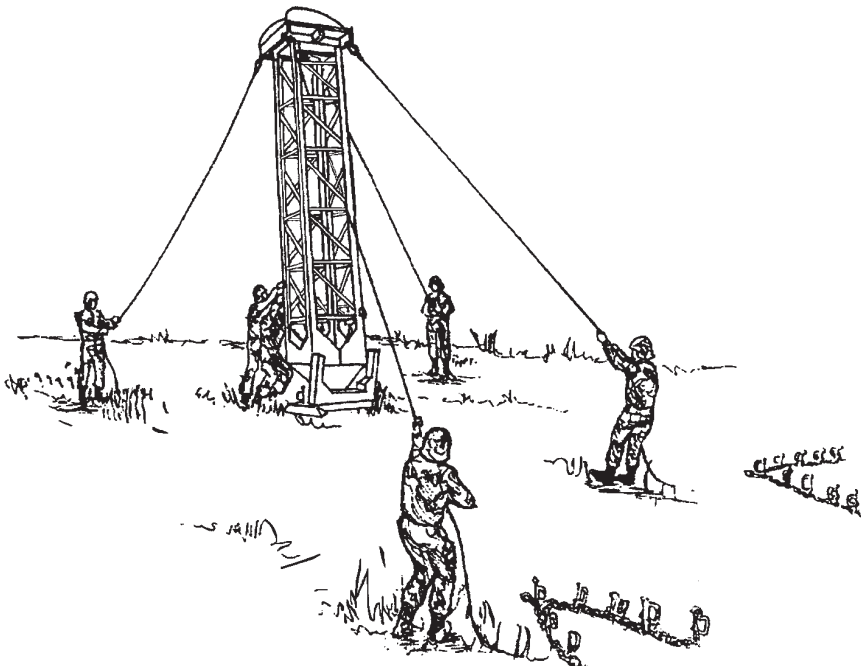

Figure 18. Raising the Tower.
- (1) To assemble the anchor tower, anchor the tower base, rig the guy lines, and provide deadmen or hold-fasts for the tower guy lines. Begin installation of the deadman to which the overhead cable will be attached prior to tower erection.
- (2) Install tower base plates and chain holdfasts.
- (3) Connect the pivot unit, the required number of tower sections (from the tower design), and the tower cap. Bolt the tower cap to the top tower section. The tower cap has a 3-in. (7.6-cm) saddle, which must be aligned to receive the overhead cable. For multiple cable systems, ensure that the two-cap adapter with two wire rope slings is attached to the top tower section.
- (4) Before raising the tower, secure the guy lines to the tower cap. Take care not to tangle or foul these guy lines. Place the erection arm in the pivot unit and pin it to the tower base to keep the pivot unit in the base socket.
- (5) Raise the tower. For taller towers, some lifting device may be needed. (Refer to figure 18.) Any crane, M728 combat engineer vehicle, or M88 recovery vehicle can be used.
- (6) Adjust the tower guy lines as required.